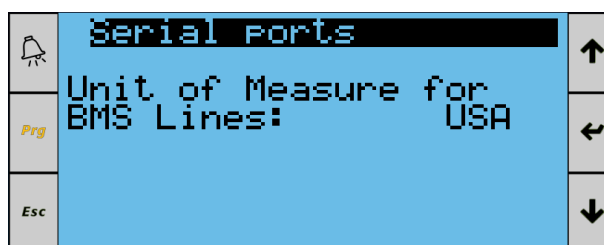

Figure 89. Settings Menu, Communications, UoM
- Set appropriate unit of measure for BMS lines as shown in **Figure 89** below.